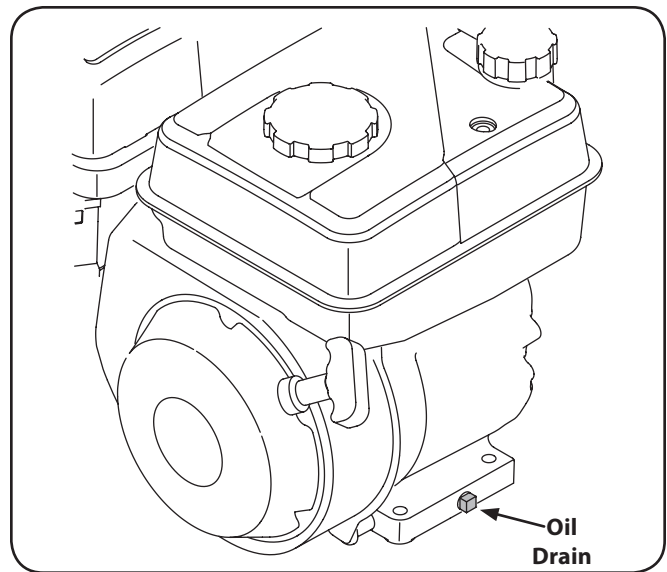

Figure 6-3
6. Remove the Oil drain plug. See Figure 6-3.